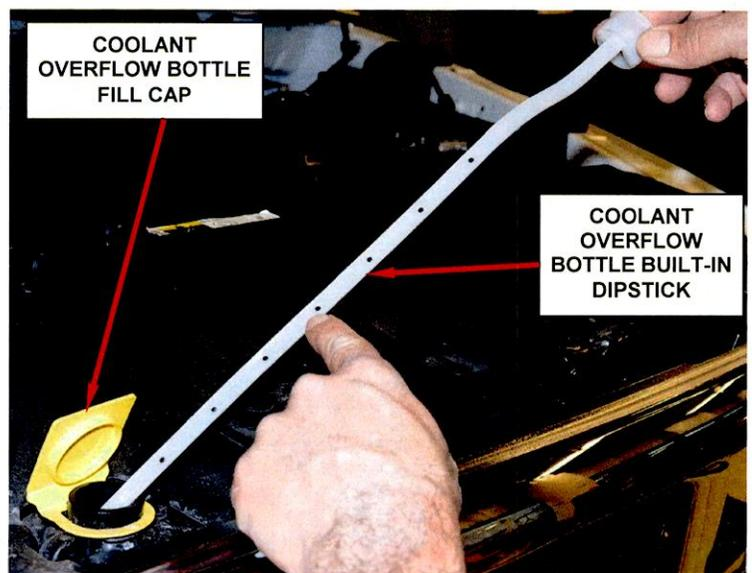

Figure 8 – Check Overflow Bottle Coolant Level
- f. Fill the coolant overflow bottle to the recommended level (Figure 8).
- l. Top off the coolant level in the overflow bottle if required (Figure 8).
- r. Top off the coolant in the overflow bottle if required (Figure 8).
- v. Top off the coolant level in the overflow bottle if required (Figure 8).
- x. Top off the coolant level in the overflow bottle if required (Figure 8).
- z. Top off the coolant level in the overflow bottle if required (Figure 8).